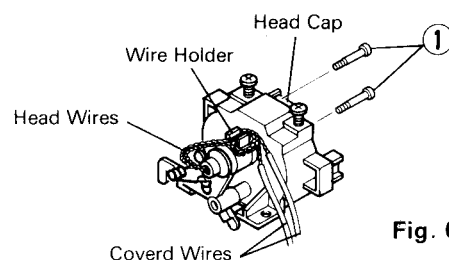

Fig. 6-4
■ Head ass'y (Fig. 6-4)
3. Remove two screws ① both sides of head gap and pull out the head ass'y carefully.